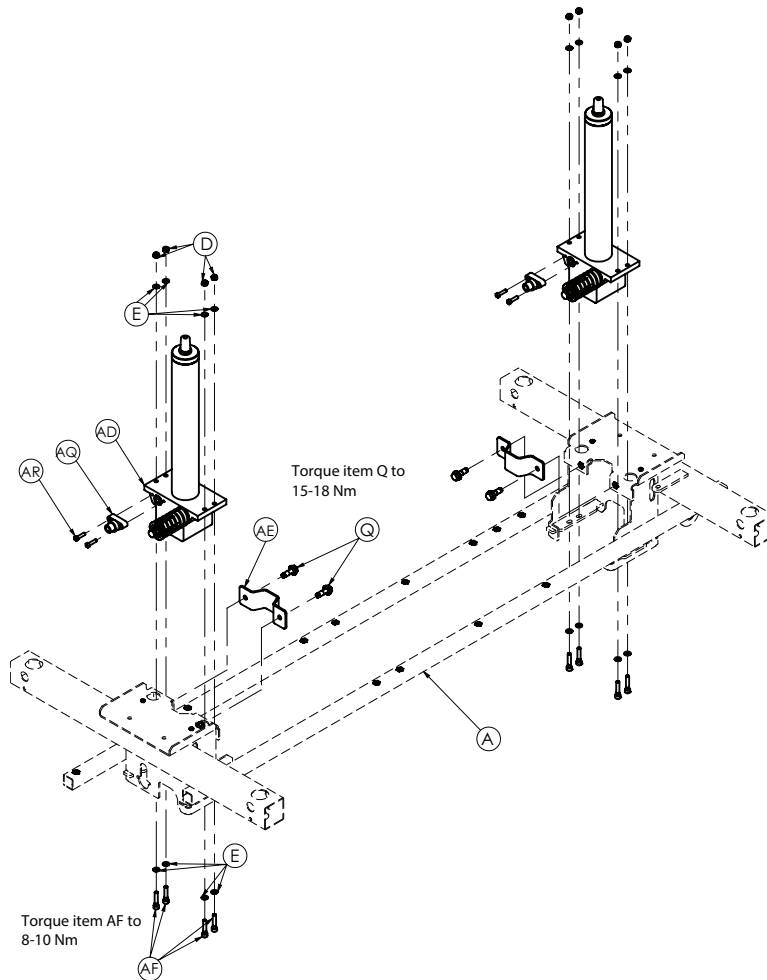

Figure 10 – Jack replacement
4. Use a 13 mm socket wrench with a 3/8" drive extension and a 3/8" drive ratchet to remove and save the two hex head bolts (Q) that hold the jack to the base frame and remove the reservoir clamp (AE) (Figure 10).
8. Use a 10 mm socket wrench with a 3/8" drive extension and a 3/8" drive ratchet to remove and save the four M6 hex nuts (D) while you hold the socket head screws (AF) from below with a 5 mm hex key (Figure 10).
9. Remove the jack assembly (AD) (Figure 10).
12. Use a 3/8" drive torque wrench to reinstall the hex head bolts (Q) to 15-18 Nm to secure the reservoir clamp (AE) to the jack assembly (AD) (Figure 10).
13. Use a 3/8" drive torque wrench to reinstall the M6 hex nuts (D) (removed in step 8) to 8-10 Nm to secure the jack assembly (AD) to the base frame (A) (Figure 10).